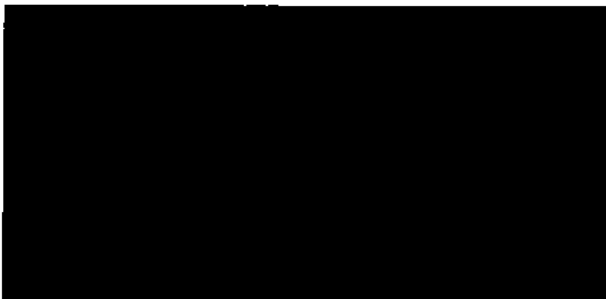

Figure 36. CUSTOMIZE CAMERA Setups SETTINGS screen
3. Navigate to the camera setup (Figure 36) to be customized and press Select to open that camera's setup customization screen. The CUSTOMIZE BUTTON SETTINGS option will blink (Figure 39).